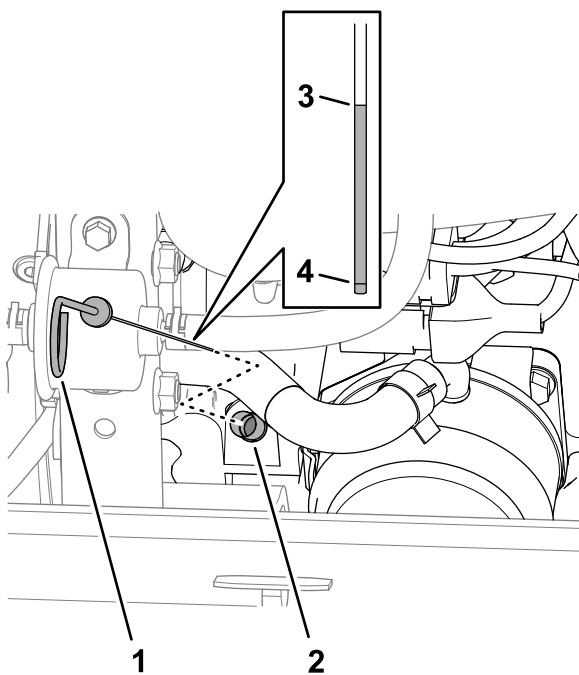

Figure 112
3. Remove the dipstick from the dipstick tube (Figure 112) and wipe the dipstick with a clean rag.